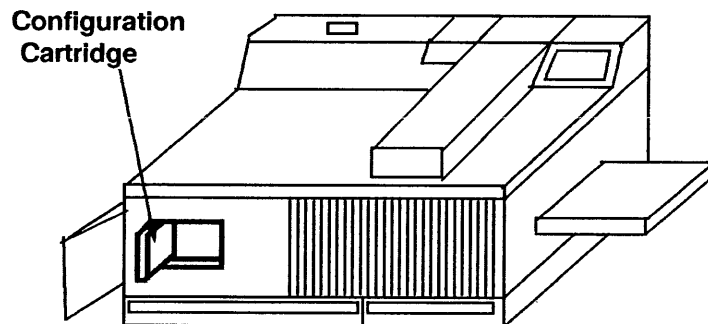
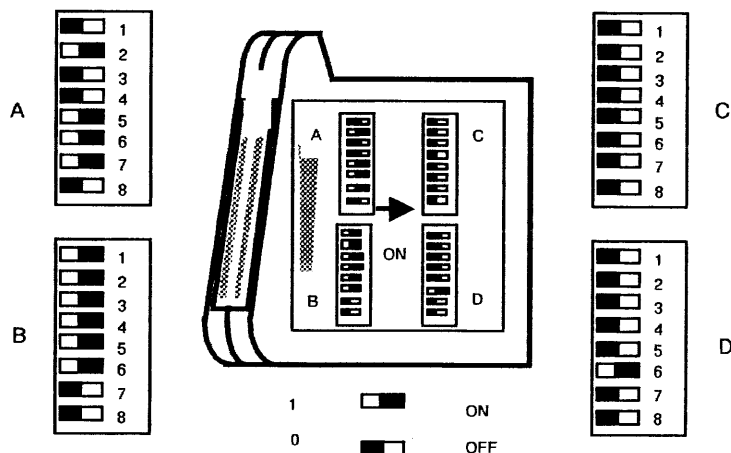

Figure 14. 4045 Printer Configuration Cartridge
Figure 15. Printer Configuration Switches
24. Remove the Configuration Cartridge from the printer (Figure 14). Check that the Configuration Switches on the Configuration Cartridge (Figure 15) are set as follows: the A-1 and D-1 switches to the OFF position and the B-1 through B-4 switches to the ON position.